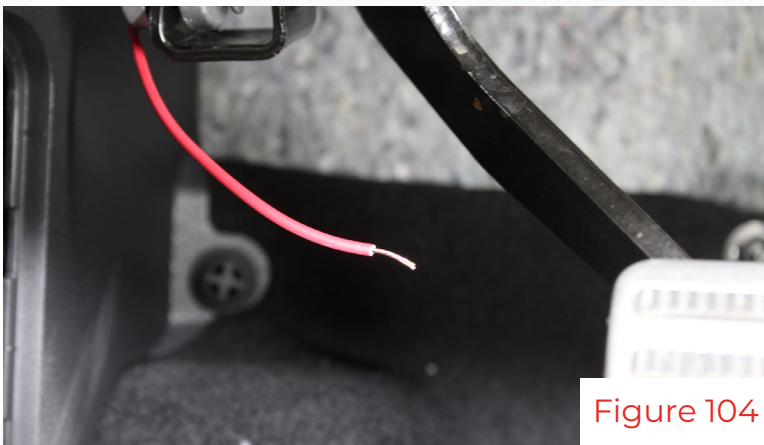

Figure 104
44. Mock up the fuse tap to the fuse box and cut any access wire off the unterminated wire. Be sure **not** to cut off the blue butt connector from the fuse tap. Then use a wire stripper to strip the wire and make crimp connection on the fuse tap(fig 104 & 105).